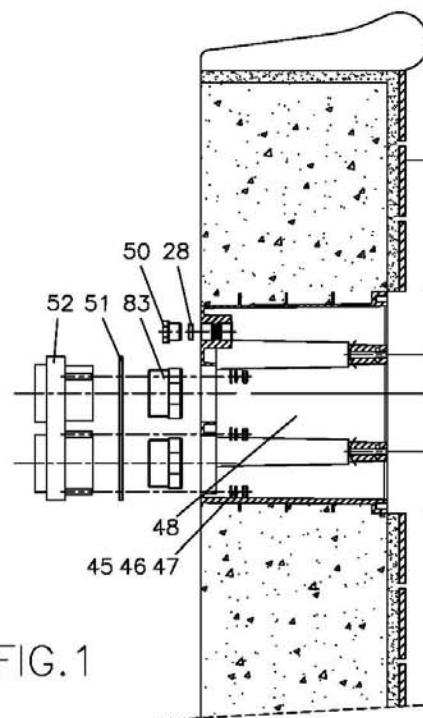
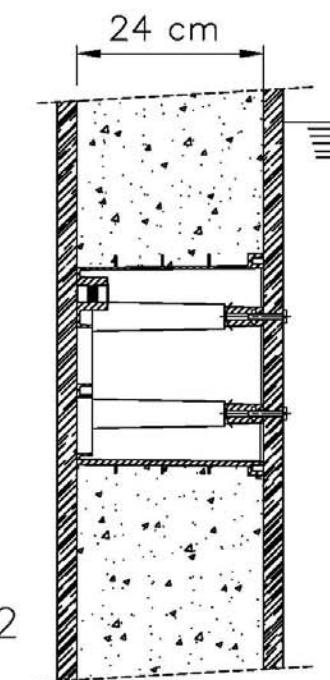

FIG.1
FIG.2
2a. INSTALLATION OF THE HOUSING CASE (Fig.1 – Fig. 2)
If only the housing case is to be installed initially, the pump connection must be taken into account (fig.1)
The housing case should be installed such that the two gland holes PG16 (48) are situated at the upper end, whilst the centre of the main nozzle should be about 30 cms. below the water level (Fig.1).
If you do not want to install the unit in the case immediately, the case can be sealed, using the fittings provided (Fig.1), in the following way: Place the sealing gaskets (49) in the connecting flange (50) and fix it to the case using six nuts M8 (43) and the corresponding washers. Put the blind joints and the packing glands into the screwholes PG16. Connect the 2 plugs RG2" to the connecting flange, having previously put "teflon" on the thread of the plugs. Put on the protection cover with the screws provided in order to close up the interior of the housing case.
Where the pool is of a shuttering type construction with walls of 24 cm thick, the housing should be installed as per (Fig.2).
2a. INSTALLATION DE LA BOÎTE DE SCELLEMENT (Fig. 1- Fig. 2)